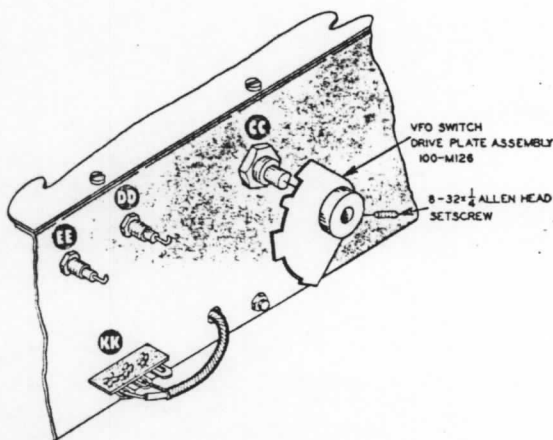

Figure 14
- (✓) Locate the VFO switch drive plate assembly (#100-M126) and start an 8-32 x 1/4" Allén head setscrew in the threaded hole. Use the wrench provided. Now slip the plate on the VFO band switch shaft and, with the end of the bushing about even with the end of the switch shaft, tighten the setscrew on the shaft flat at this time. See Figure 14.